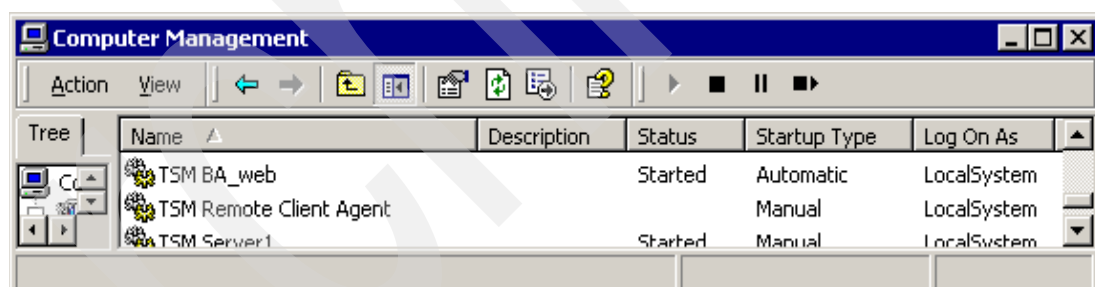

Figure 5-33 Services show Tivoli Storage Manager components
- c. In the Services window, right-click **TSMBA\_web**, and select **Start** from the pop-up menu. The window shown in Figure 5-33 should appear.